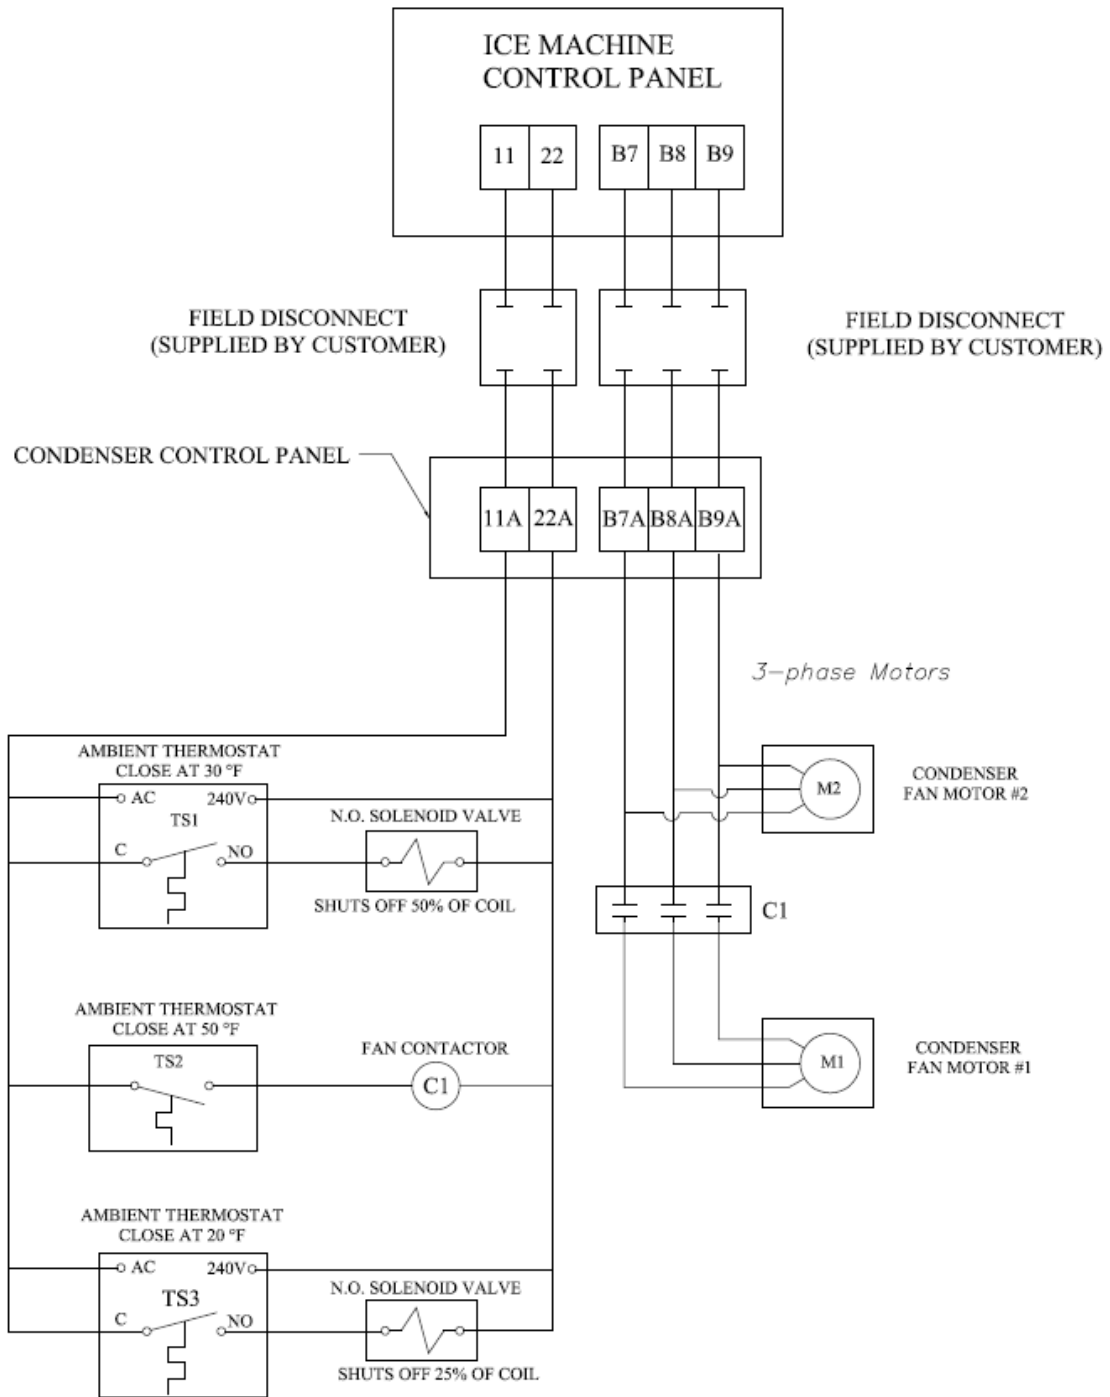

FIGURE 3-7
13. Condensers with multiple fans must be provided with a thermostat to turn off unneeded fans in cold weather. Turning off unneeded fans reduces on-off cycling of the fan(s) and allows for a steadier condensing pressure and more consistent warm gas for ice harvesting FIGURE 3-7.